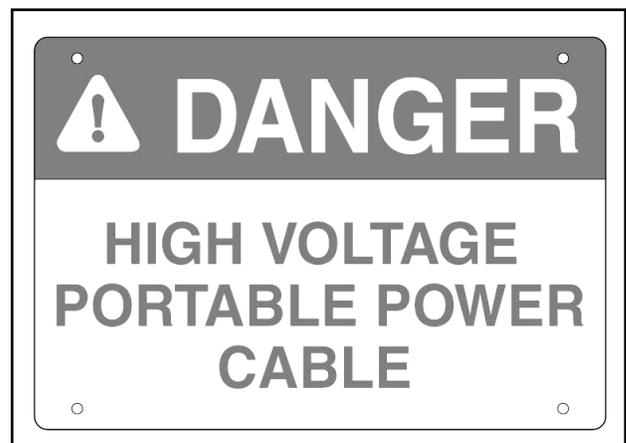

Figure 41-1 Danger Sign
1. Ensure that the danger signs are in place and visible at each end of the travel lane. See Figure 41-1.